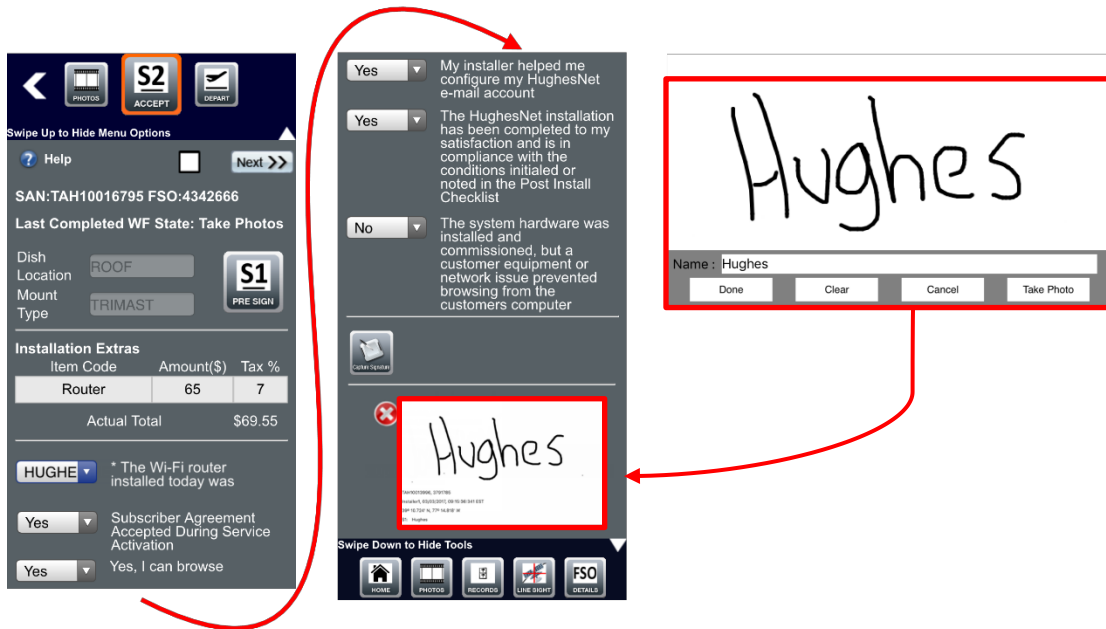

Figure 55: Customer final acceptance signature
3. In the signature screen that displays, the customer must sign their name on the screen and also type their name in the *Name* field. This signifies their approval of the completed installation. See Figure 55.
**Note:** Figure 55 does not show every step that will appear in the step summary.